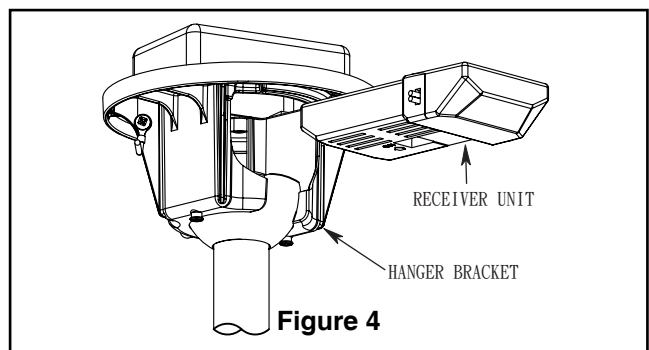

Figure 4
4. Route wires through motor coupling cover, canopy screw cover and canopy (Figure 4).
3. Slide the receiver unit into the open end of the hanger bracket (Figure 4).
- ☐ 4. Connect the 2-pin connector from the socket plate to 2-pin connector from motor assembly (Figure 4).
- ☐ 4. If airflow is desired in the opposite direction, turn the fan off and wait for the blades to stop turning. Then slide the reverse switch on top of motor assembly to the opposite position and turn fan on again (Figure 4).